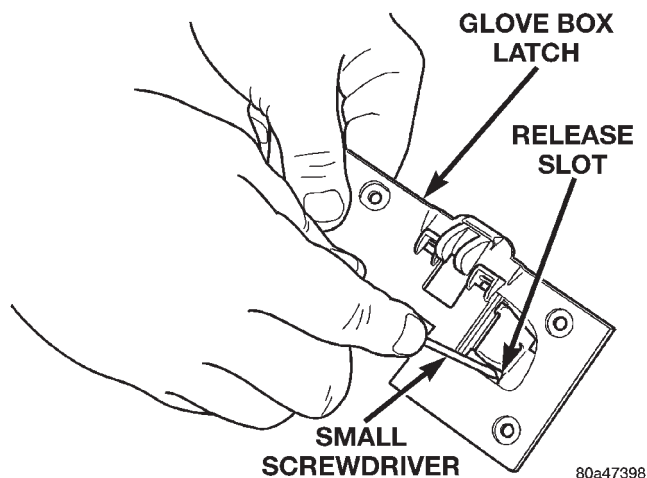

Fig. 17 Glove Box Lock Cylinder Remove/Install
(1) Remove the glove box latch and handle from the glove box. See Glove Box Latch and Handle in this group for the procedures.
(2) Insert the key into the glove box lock cylinder.
(3) Insert a small screwdriver into the retaining tumbler release slot and depress the retaining tumbler (Fig. 17).